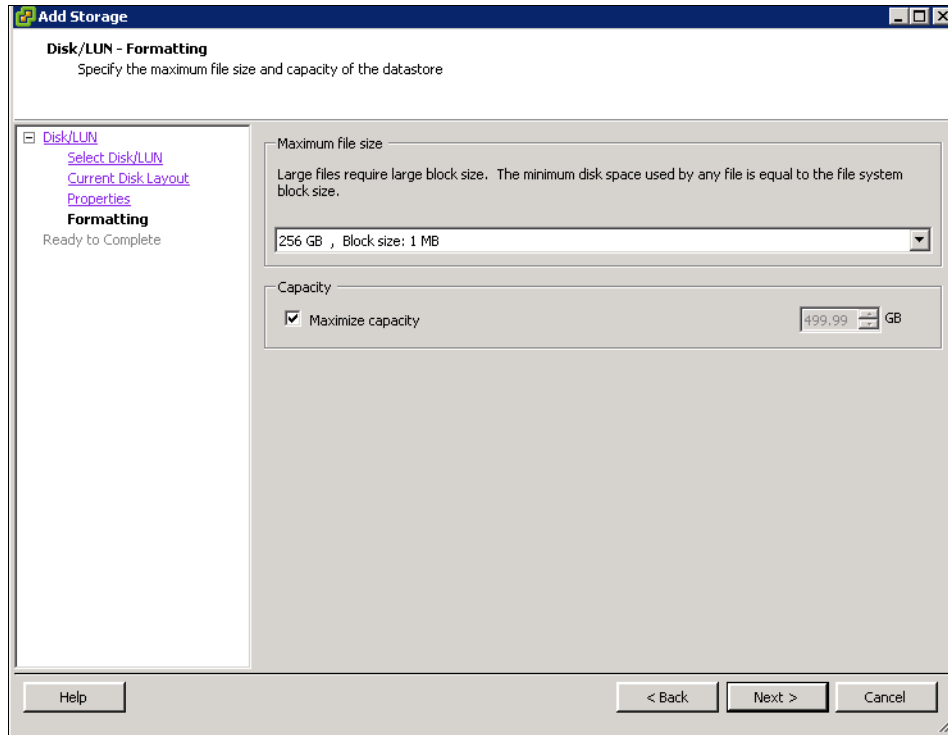

Figure 12-59 Maximum file size
11. Select the maximum file size and click **Next** (Figure 12-59).